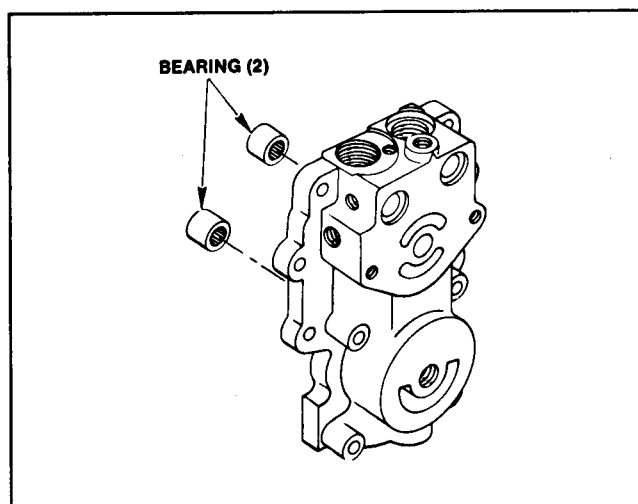

Figure 41
7. If the needle bearings located in the center section are suspected as being faulty, they may be removed by pressing them out of the center section (Fig. 41).